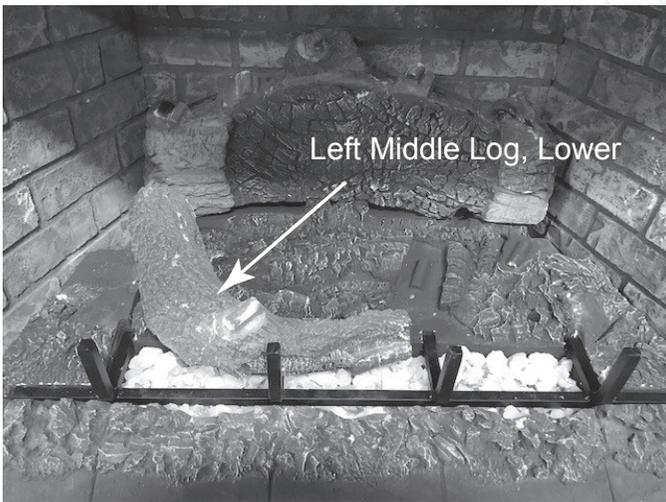

Figure 11.15
- Locate the left middle log lower by placing the two notches on bottom of left middle log on to the two locating points on burner top. See Figure 11.15.